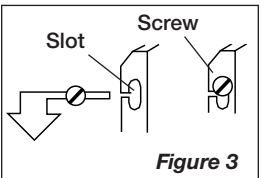

Figure 3
- Mount Fan in window by engaging Slots with installed Wood Screws on inside edge of trim. Lower Fan onto 4 Screws until it rests on window sill or sash moulding. (*Figure 3*)